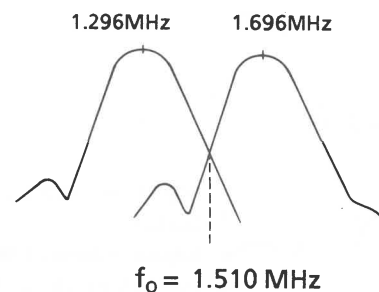

Figure 2-18
- (5) Adjust R6337 so that the spectrum is as shown in Figure 2-18. (2 spectrums overlap at 1.51 MHz.)